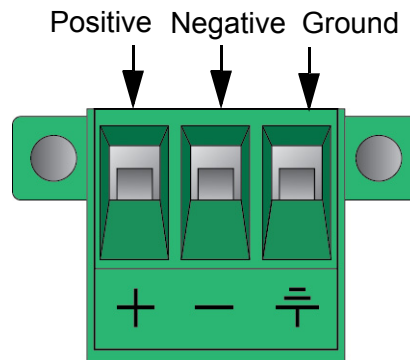

Figure 8. Locating the Terminals on the DC Terminal Block
1. Identify the **positive**, **ground**, and **negative** terminals on the DC power supply terminal block, as shown in Figure 8.